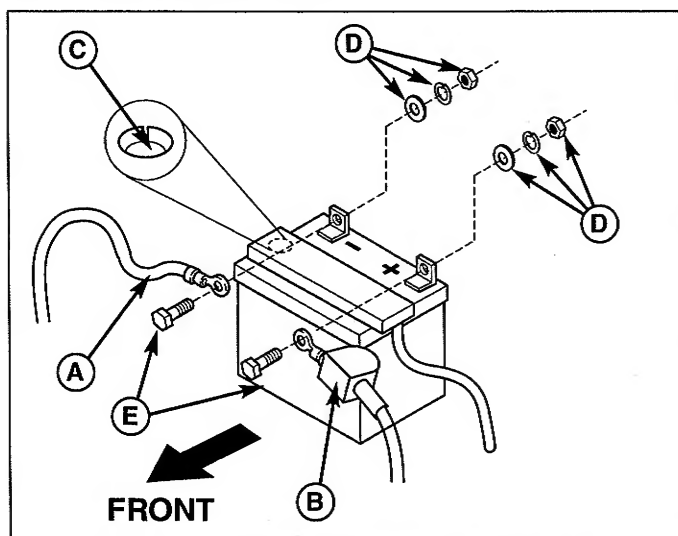

Figure 31. 18HP & 20HP Battery Cables & Fill
2. Remove the battery filler cap(s). Fluid must be even with the split ring full mark (C, Figure 31). If not, add distilled water.
1. Disconnect the cables from the battery, negative cable first (A, Figures 31 & 32).
6. Reattach the battery cables, positive cable first (B, Figures 31 & 32).